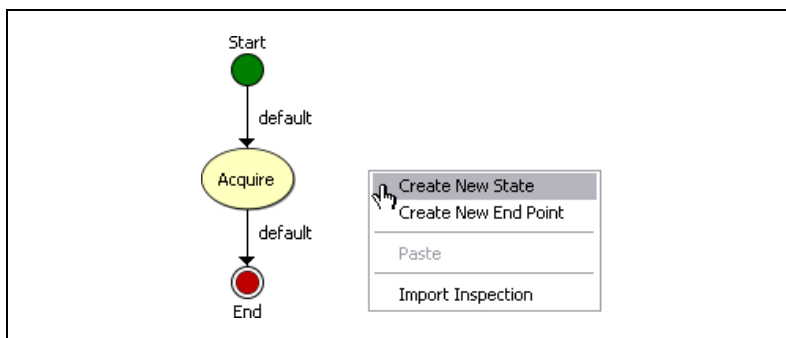

Figure 8-6. Creating a New Inspection State
- Right-click an open area on the state diagram and select **Create New State** to add a new state to the inspection, as shown in Figure 8-6. The Edit State Name dialog box opens.